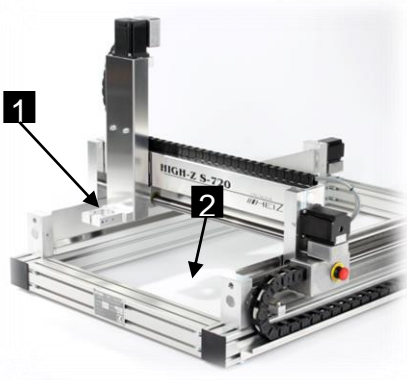

Figure. 18: Working area
- area of the tool holder (Fig. 18/1) (when turned off)
- Range of motion of the axes (Fig. 18/2) (when turned off) in order to clamp work pieces